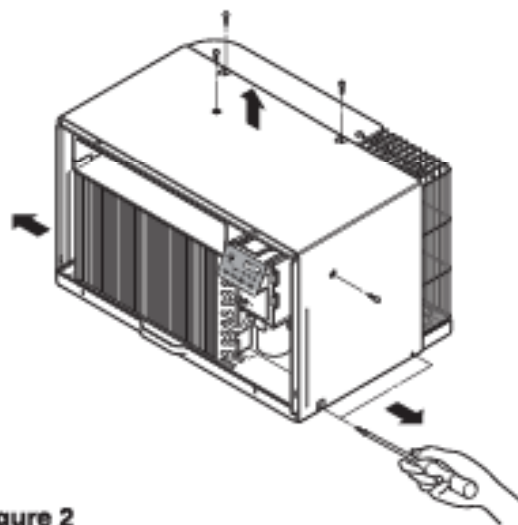

Figure 2
1. After disassembling the FRONT GRILLE, remove the 6 screws which fasten the cabinet at the both sides and the top. (See Fig. 2)